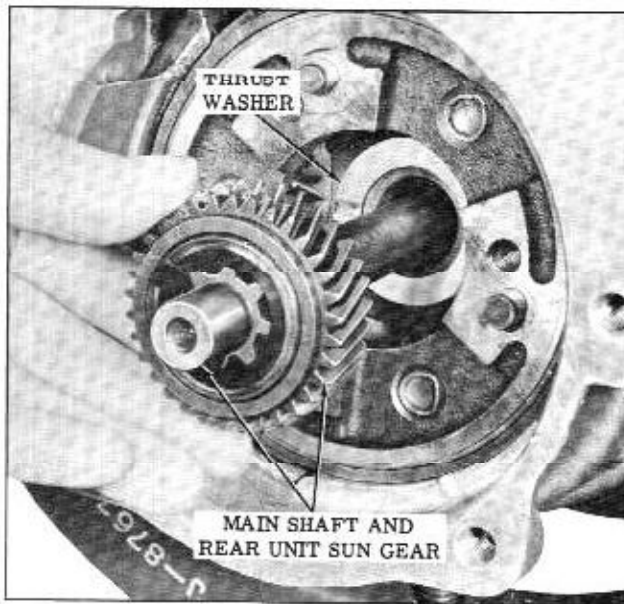

Fig. 3-103 Installing Rear Carrier
20. Install the rear carrier to sun gear bronze thrust washer into rear carrier and install mainshaft. (Fig. 3-103)